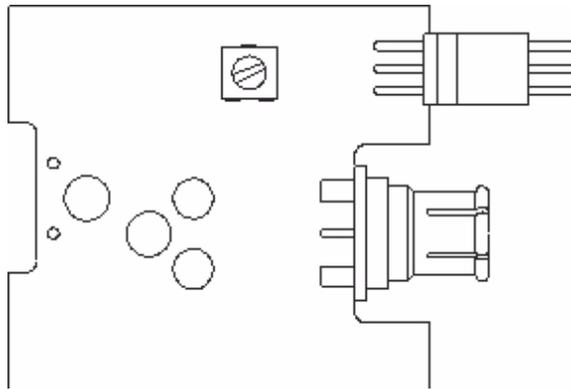

Figure 8-2. Adjustment Locations
6. Adjust **OUTPUT ZERO** on the board until the DMM reads 0 V  $\pm$ 100  $\mu$ V. Refer to Figure 8-2 for adjustment location.